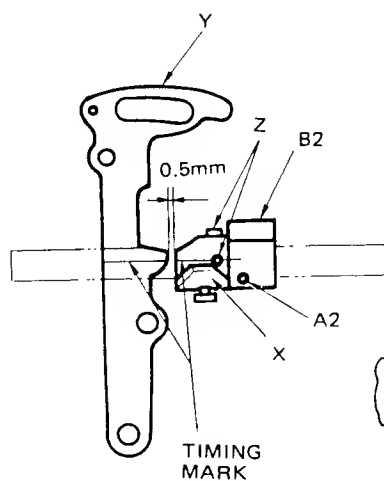

Fig. 76
The clearance between the highest point of thread puller action cam X and follower portion of thread puller action plate Y should be 0.5mm (.020") (Fig. 76)
The timing mark on the thread puller action cam X must align with the timing mark on the thread puller action plate Y when distance from top of needle bar connecting stud, needle bar on its downward stroke, to underside of arm at needle end is 66.6mm (2.622") in "BD, BF, GD and GF" varieties of 591D200/210/215/240 and 601D machines, 69.5mm (2.736") in "BD, BF, GD and GF" varieties of 591D300/310/315 machines and 70.0mm (2.755") in 591D318BD/BF machines. (Figs. 76 and 77)
On compound feed machines, the timing mark on the thread puller action cam X must align with the timing mark on the thread puller action plate Y when distance from top of needle bar connecting stud, needle bar on its down stroke, to lower end of needle bar frame is 81.8mm (3.220") in "BD, BF, GD and GF" varieties of 591C200/210/240 machines, 77.0mm (3.031") in "BD, BF, GD and GF" varieties of 591C300/310 machines and 76.0mm (2.992") in 591C318BD/BF machines. (Figs. 76 and 78)
1. Loosen two set screws A2, Fig. 76 and turn the tension release action cam C2 as required.
2. When correct position has been located, firmly tighten the two set screws A2, Fig. 76 while holding the tension release action cam C2 pressed lightly against the thread puller action cam X.